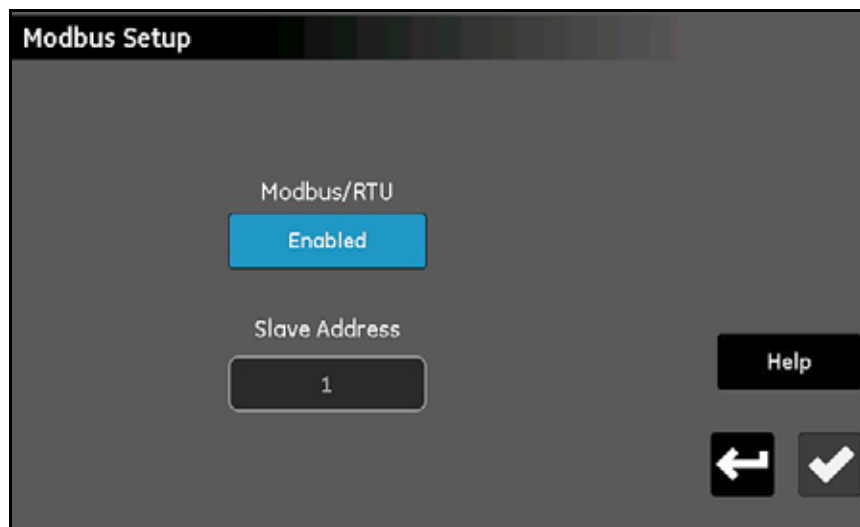

Figure 60: Modbus Setup Screen
1. From the *Configuration Menu* screen (see *Figure 47 on page 53*), tap the Modbus button to open a *Modbus Setup* screen similar to *Figure 60* below.